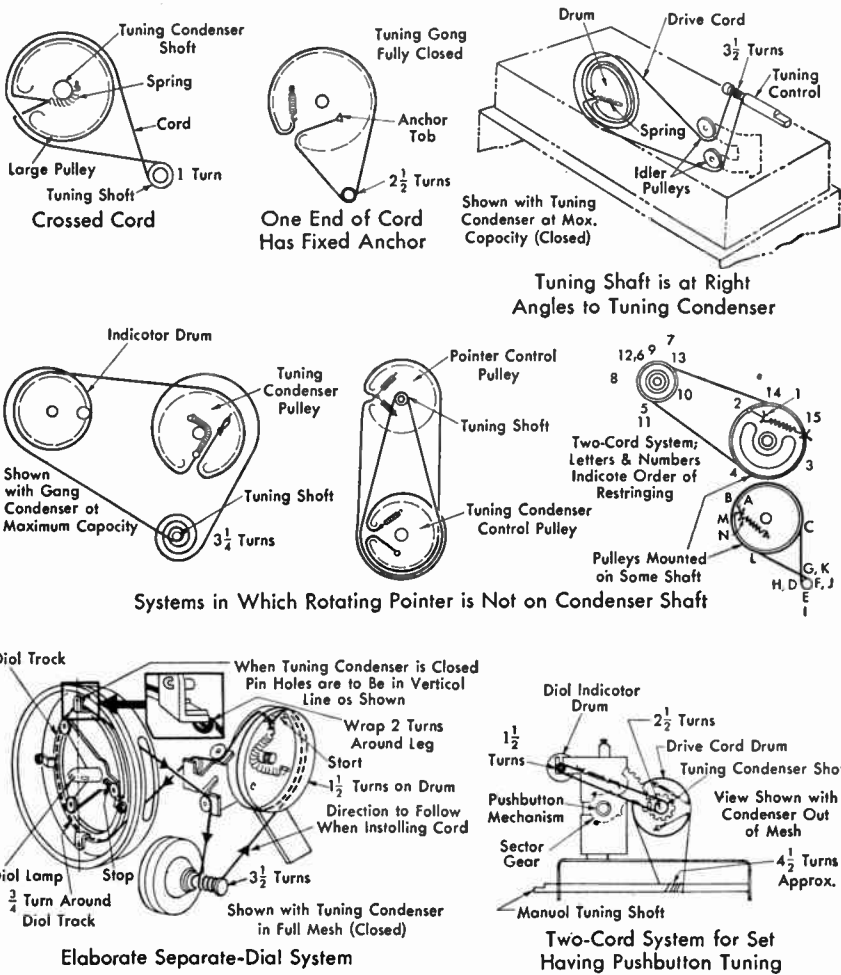

Fig. 3. Examples of dial-card drives for rotating-dial or rotating-painter systems
**Variations in Dial-cord Drives.** The commonest way of using a dial cord to make a tuning knob turn a tuning-condenser shaft has just been studied. Some of the common variations of this same system for rotating-pointer drives are shown in Fig. 3. All permit locating the tuning knob away from the tuning condenser and provide speed reduction to make tuning easier.